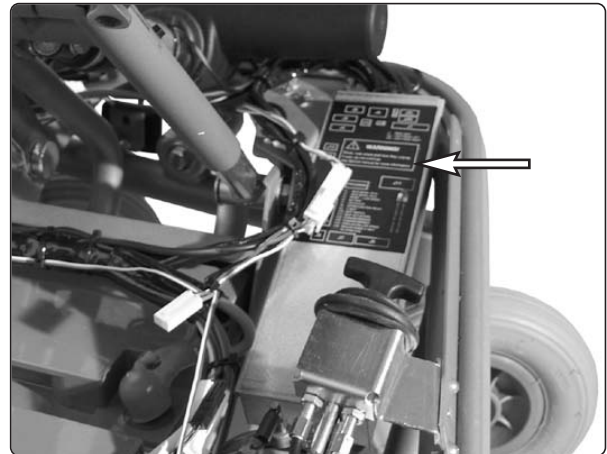

Fig. 56. The box containing the SLS driver stage and the actuator control board is mounted on the left side of the chassis.
2. Pull the lid off the box that houses the SLS driver stage, see fig. 56.